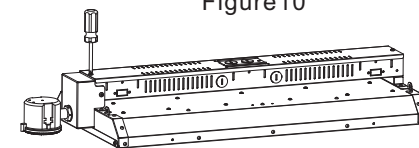

Figure11
- Step3. Fix the driver cover plate back in place (Figure 11).